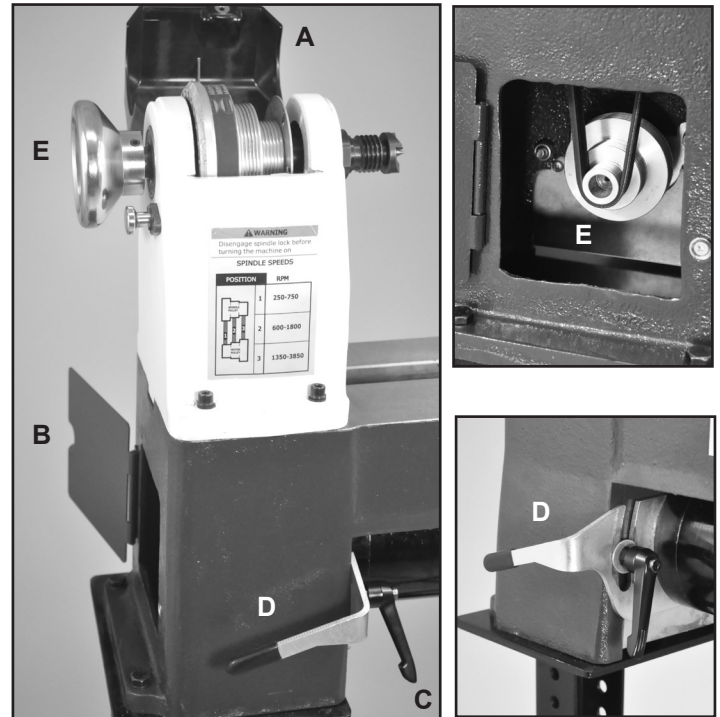
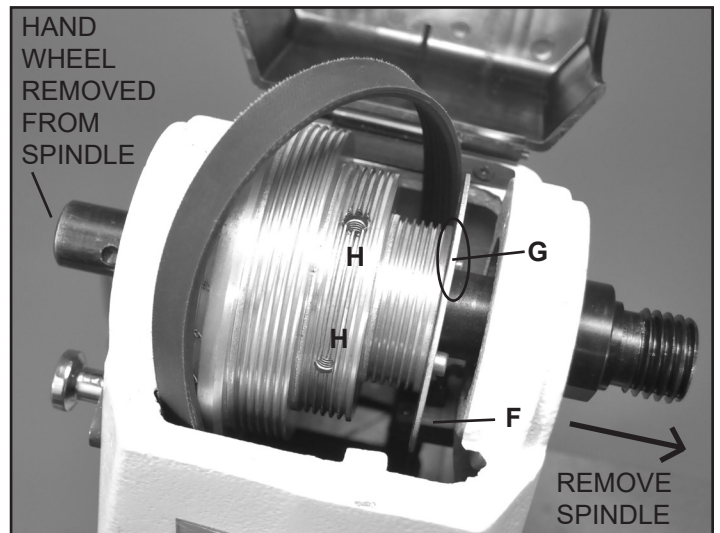

FIG. 10
FIG. 11
3. Open the top Headstock Cover (#35, FIG. 10, A) and the left side, Bed Cover Plate Door (#8, B) to gain access to the belt and pulleys that are inside of the headstock.
6. Loosen the two (2) Set Screws (#40) that attach the Hand Wheel (#41, E) to the spindle, and remove the Hand Wheel.
7. Remove the two countersunk Phillips Screws (#33B) that hold the RPM Reader and Support Bracket assemblies (#49, 48, 48A-F), which are located under the Spindle Pulley's Segmented Plate (#53, G). This will drop the RPM Reader inside of the headstock and safely away from the spindle pulley. FIG. 11. See Parts Diagram on page 18.
8. Remove the Set Screws (#51, H) that attach the Spindle Pulley to the spindle. The pulley should now be loose on the spindle. **NOTE:** There are two (2) set screws, one on top of the other, in both of the two (2) threaded holes. This stacking keeps the set screws from loosening during use.